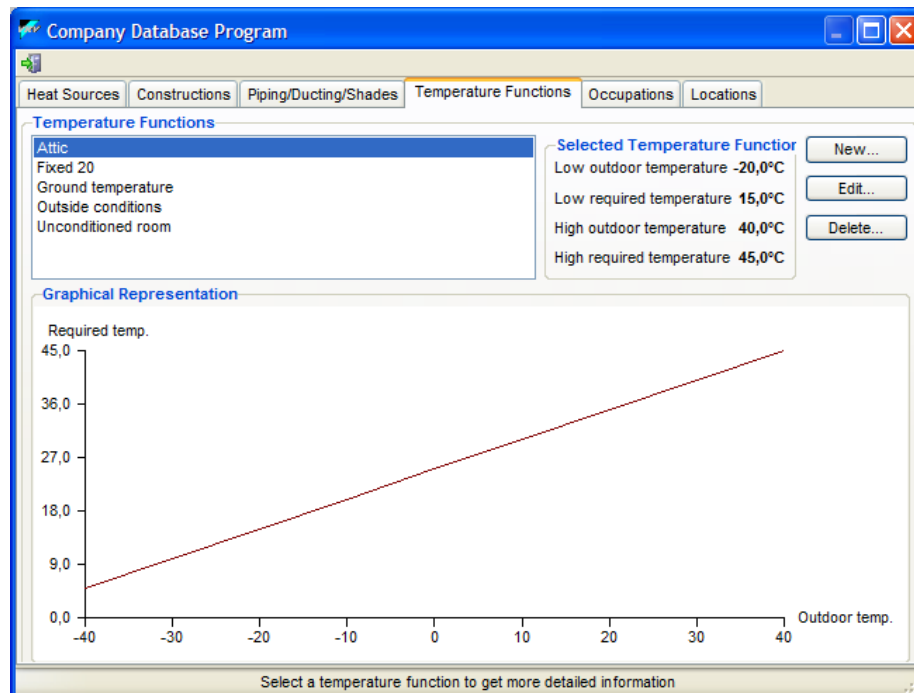

Figure 161: Definition of a temperature function
4. If you select a temperature function, the temperature at the other side of the wall varies as a linear function of the ambient temperature. Temperature functions are defined in the company database and need four temperature values: the minimum and maximum ambient temperature values and the corresponding required temperature values. Figure 161 shows an example of such a temperature function.